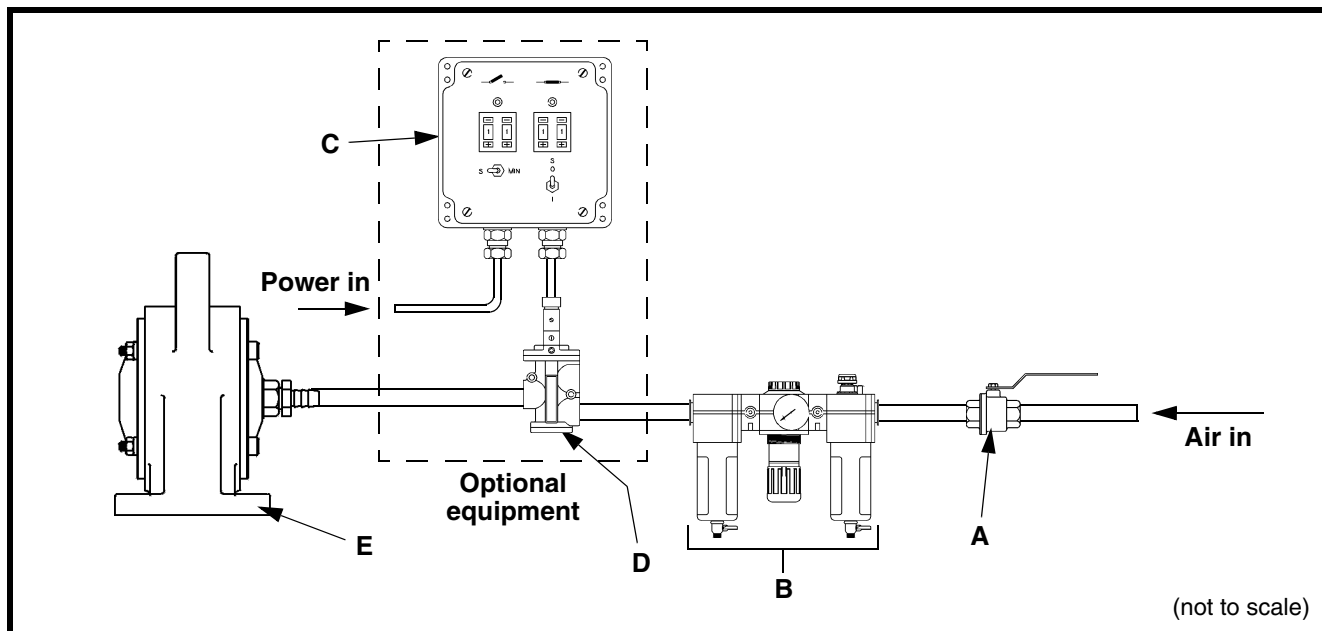

Figure 2. Connecting Air Lines to Vibrator
- a. See Figure 2. Connect air line to ball valve (A) and Filter/Regulator/Lubricator (FRL) Kit (B). Set lubricator to deliver 2–4 drops per minute.